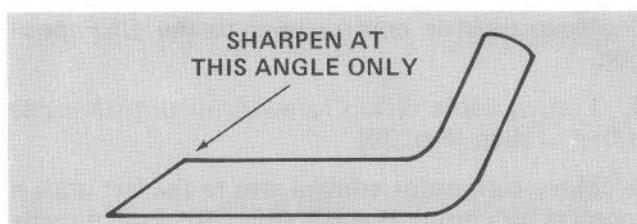

Figure 27
4. Using a file, sharpen cutting edge at both ends of the blade (Fig. 27).
**IMPORTANT:** Sharpen top side of blade and maintain original cutting angle to assure a sharp cutting edge (Fig. 27). The blade will remain balanced if same amount of material is removed from both cutting edges.